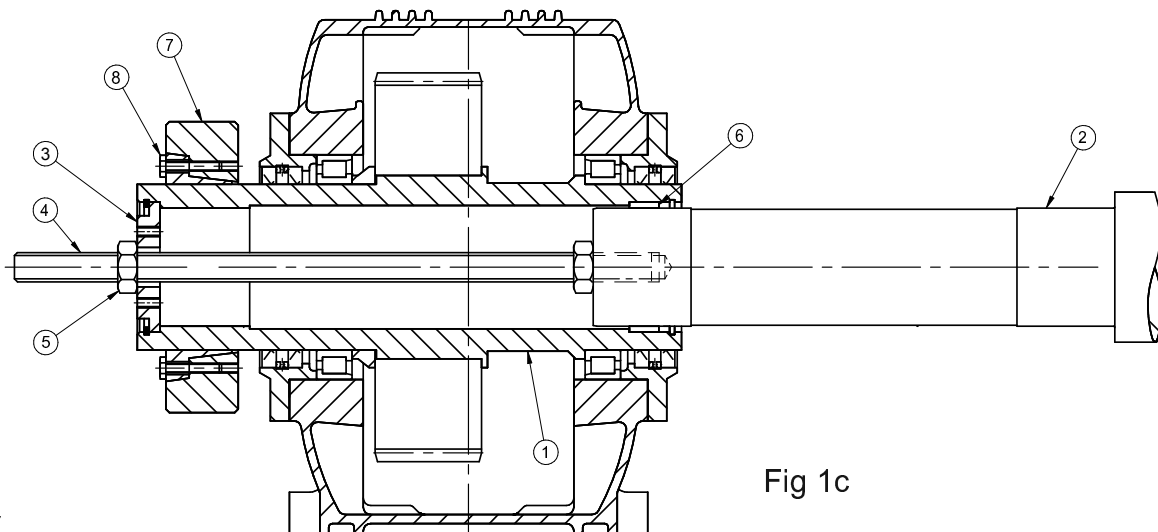

Fig 1c
- Clean and degrease the locating diameters of the gear unit hollow shaft bore(1), the driven machine shaft (2) and the shrink disc locating surface
- Apply a 'dry film lubricant spray' (Molykote 321R or similar) to the tapered surfaces of the shrink disc (7) and to the non-clamped end of the driven shaft.
- Check that the anti-fretting guide bush (6) is correctly located in the gear unit hollow shaft bore.
- Secure the assembly spindle/screw/nut (4 & 5) into the driven machine shaft, secure the end plate (3) to the gear unit shaft.
- Accurately align the gear unit and draw it onto the driven machine shaft as shown (Fig 1c) ensure the gear unit is drawn fully into position, remove the spindle and nut.